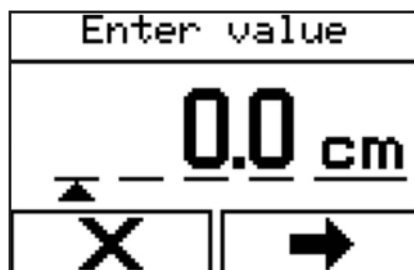

Figure 96 - Entering a value
2. Set the new basic height (Figure 96).